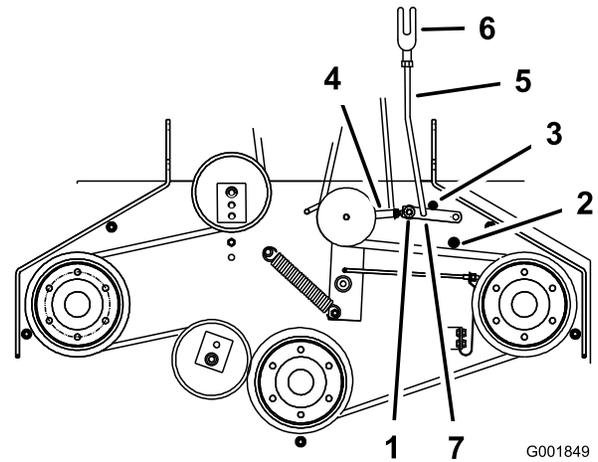

Figure 48
5. Make sure the assist arm is against the rear assist arm stop on the deck (Figure 48).
7. The assist arm should contact the front assist arm stop on the deck. If it does not contact, adjust the bellcrank so that it is closer to the gusset (Figure 48).
8. To adjust the assist arm link, remove the hairpin cotter pin from the assist arm (Figure 48).
11. Install the assist arm link into the assist arm and secure it with the hairpin cotter pin (Figure 48).